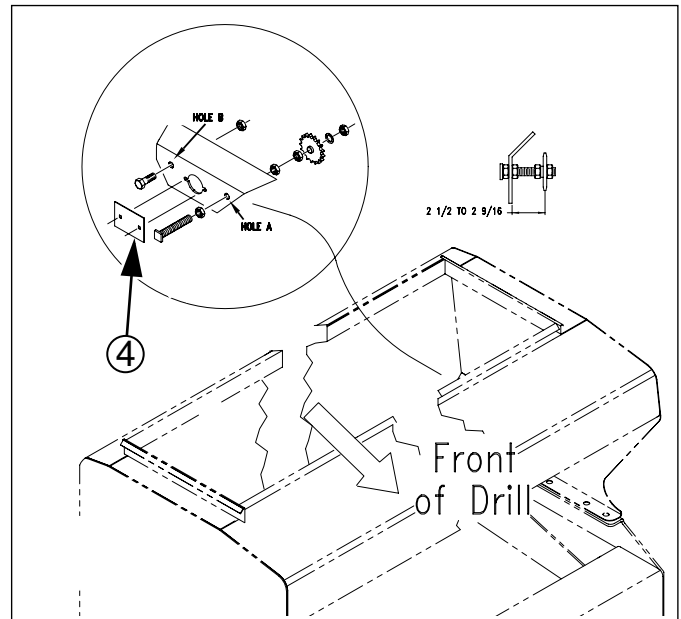
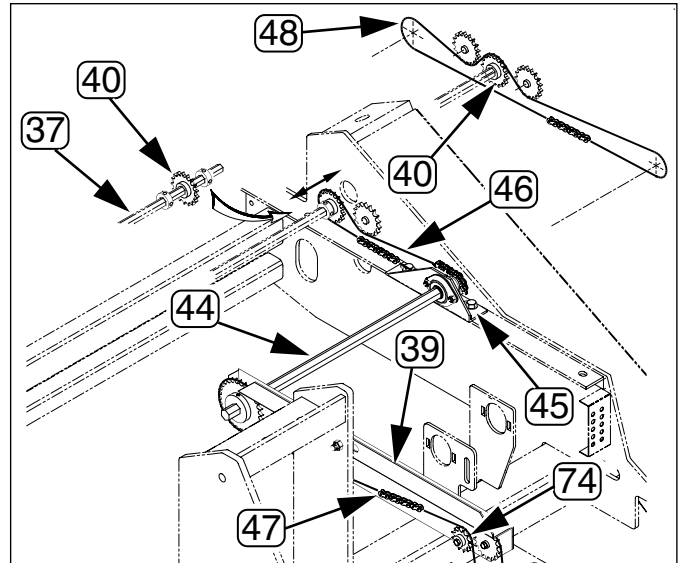

Figure 5
Figure 8
### Refer to Figure 5:
Refer to Figure 8
- (46) 136-060D CHAIN RL #40 61 PITCHES or
- (48) 136-110D CHAIN RL #40 100 PITCHES
- Thread the drive chain (46) back through the cutout in the box, around the agitator sprocket (40) and back to the front 12 tooth sprocket (71) as shown. After connecting the chain, check the alignment of the sprockets. Move the agitator sprocket (40) if needed and hold its alignment by its set screw. Change the position of the idler sprocket as needed by adjusting the  $\frac{5}{8}$  inch jam nuts (61), *Figure 8 on page 7*.
- On drills equipped with the Small Seeds or Fertilizer Attachment, route chain (48) under the second idler, and back around the agitator sprocket (40) as shown.
- Once all the chains are aligned, tighten all the hardware shown in Figures 5 & 6. Be sure to lock the  $\frac{3}{4}$  inch hex bore collar (36) (inside the seed box) against the bearing mounted to the idler plate. This will hold the  $\frac{3}{4}$  inch hex shaft in position.
- Tighten chain (48) or (46), by moving the  $\frac{7}{8}$  inch hex jackshaft (44) forward by using the slots in bearing plates (45) and (39).
- To remove the excess slack from chain (47) coming from the gauge wheel, move the 12 tooth idler sprocket (74) forward and tighten.
Refer to Figure 8: